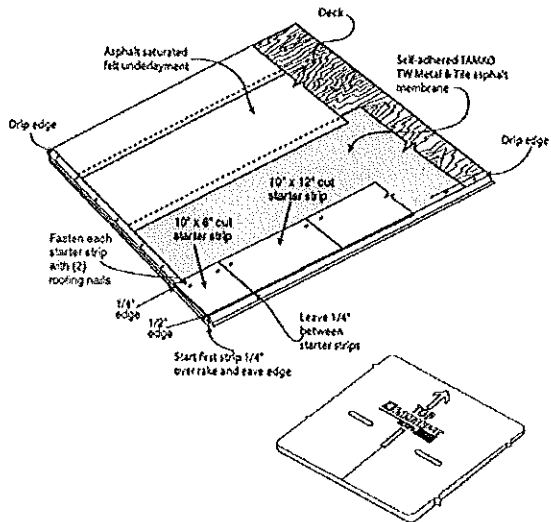

FIGURE 2—TYPICAL STARTER STRIPS
2.2.2 Shingle Starter: Starter strips are cut in the field from the headlap portion of full-size shingles in 2-inch-wide-by-12-inch-long (51 mm by 305 mm), 10-inch-wide-by-12-inch-long (254 mm by 305 mm) or 10-inch-wide-by-6-inch-long (254 mm by 153 mm) strips. Typical starter strips are shown in Diagram A in Figure 2. Alternatively, preformed (factory-cut) starter strips as shown in Diagram B in Figure 2 may be used. Preformed starter strips are either 10 inches wide by 12 inches long (254 mm by 205 mm) or 10 inches wide by 6 inches long (254 mm by 153 mm).
2.3.3 Shingle Starter Application: Two starter courses must be applied in accordance with the Tamko installation instructions and Diagram A of Figure 2.
Alternatively, the Lamarite preformed starter course may be used as shown in Diagram B in Figure 2. In the application, the bottom edge of the roof will be two layers thick.